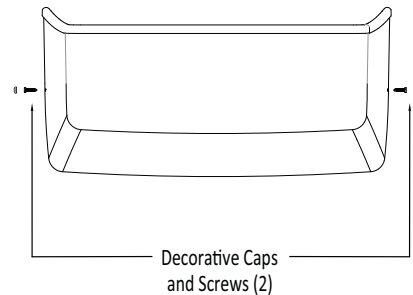

Figure 3
4. Remove the two (2) decorative caps and screws on the bottom sides of the cabinet and lift the cabinet off the metal brackets and set it aside. See Figures 3 & 4